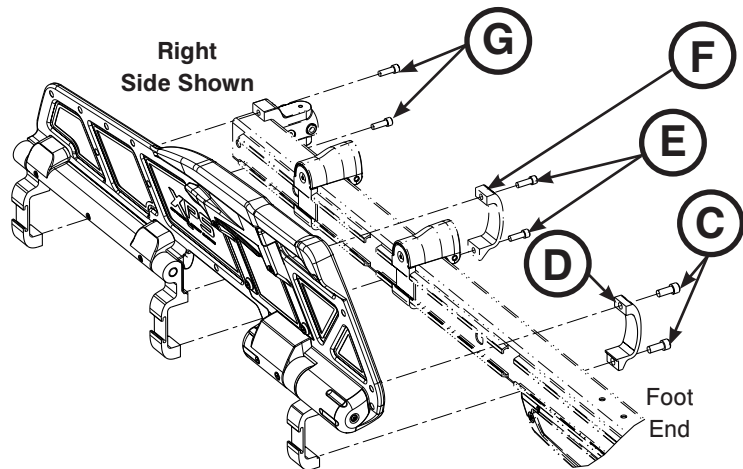

Figure 56
5. Using a 1/4" hex wrench, remove the socket head cap screws (C) that secure the siderail clamp (D) to the ratchet assembly at the foot end of the main assembly (Figure 56). During installation, torque both new screws to 22 ± 3.3 ft-lb.
6. Using a 3/16" hex wrench, remove the two socket head cap screws (E) that secure the middle siderail clamp (F) to the outer rail assembly (Figure 56).
7. Using a 3/16" hex wrench, remove the two socket head cap screws (G) that secure the top and bottom of the base/litter interface bracket to the outer rail assembly (Figure 56).